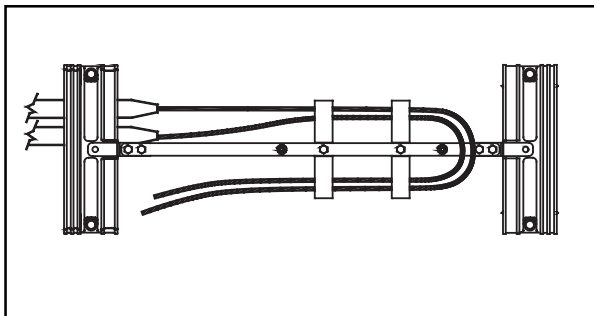

FIGURE 19 – ROUTING BUFFER TUBES WITHIN BUFFER TUBE STORAGE CLIPS
- 11.01** Route buffer tubes one turn through the buffer tube storage clip as shown in Figure 19.